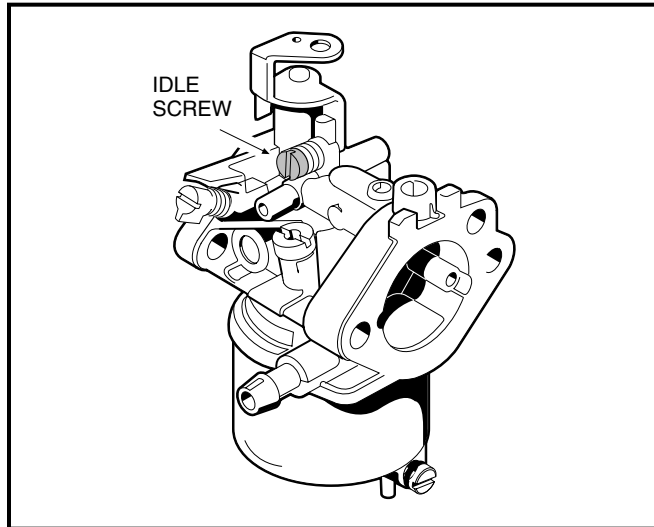

Figure 14-7 Idle Screw
- 1.1.1. Loosen the carburetor idle screw so that it is not touching the throttle lever (**Figure 14-7, Page 14-11**).
- 2.1. With the engine running and the Forward/Reverse handle in NEUTRAL, attach a tachometer (CCI P/N 1016112) to the spark plug wire and adjust the low idle screw on the carburetor until the tachometer reads 1200 to 1250 RPM (**Figure 14-7, Page 14-11**).